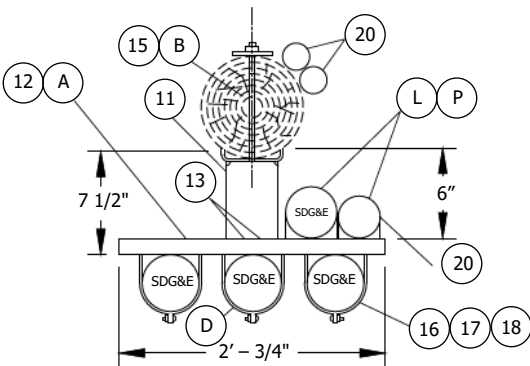

FIGURE 3
- ii. ADDING A SINGLE RISER TO AN EXISTING RISER POLE. AN EXISTING SINGLE SDG&E RISER WOULD REMAIN ON THE POLE UNLESS IT IS CREATING A G.O. 95 INFRACTION. IF AN INFRACTION EXISTS, MOVE THE EXISTING RISER TO THE LADDER ARM BRACKET ALONG WITH THE NEW RISER SHOWN IN FIGURE 3.